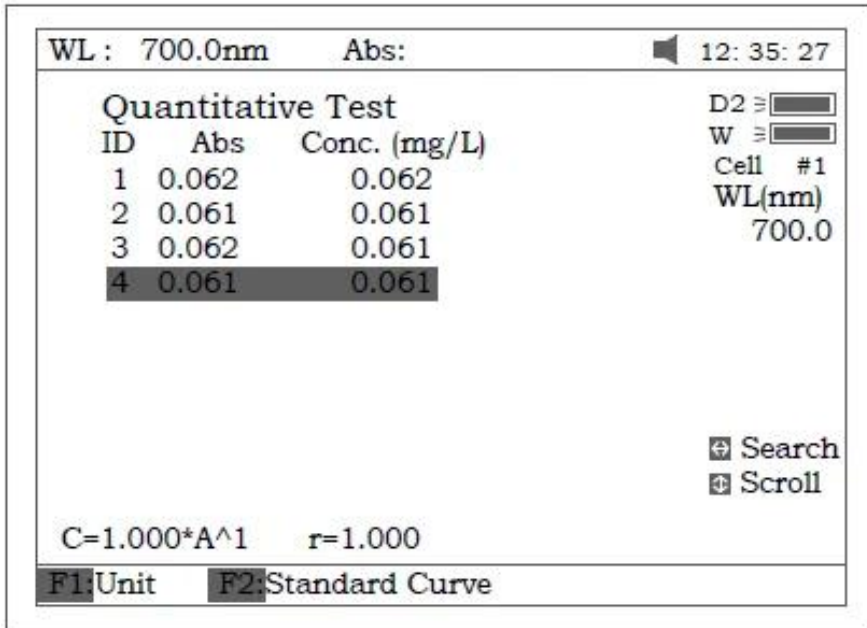

Figure 38
4.2 Pull the sample cuvette into Main Light Path, press the key **【START】**, the results will be displayed on the screen (Fig 38).